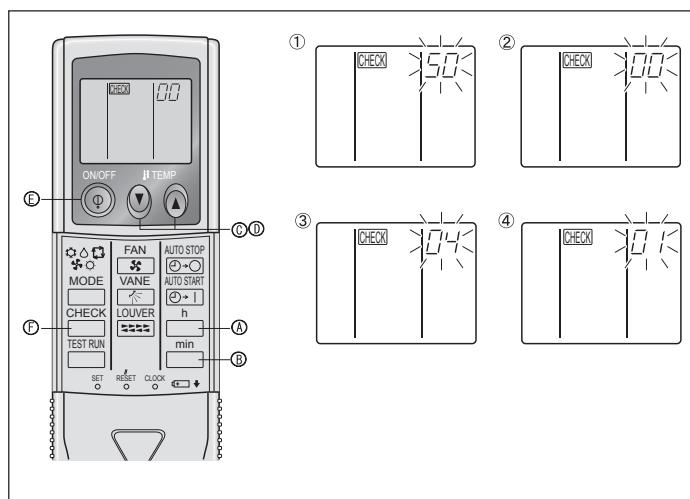

Fig. 6-9
- ⑧ Press the MODE button **Ⓔ** and mode and the setting number (I) and (II) will change to being on constantly and the contents of the setting can be confirmed.
- ⑨ Press the FILTER **Ⓐ** and TEST RUN **Ⓑ** buttons simultaneously for at least two seconds. The function selection screen will disappear momentarily and the air conditioner OFF display will appear.
2) For wireless remote controller (Fig. 6-9)